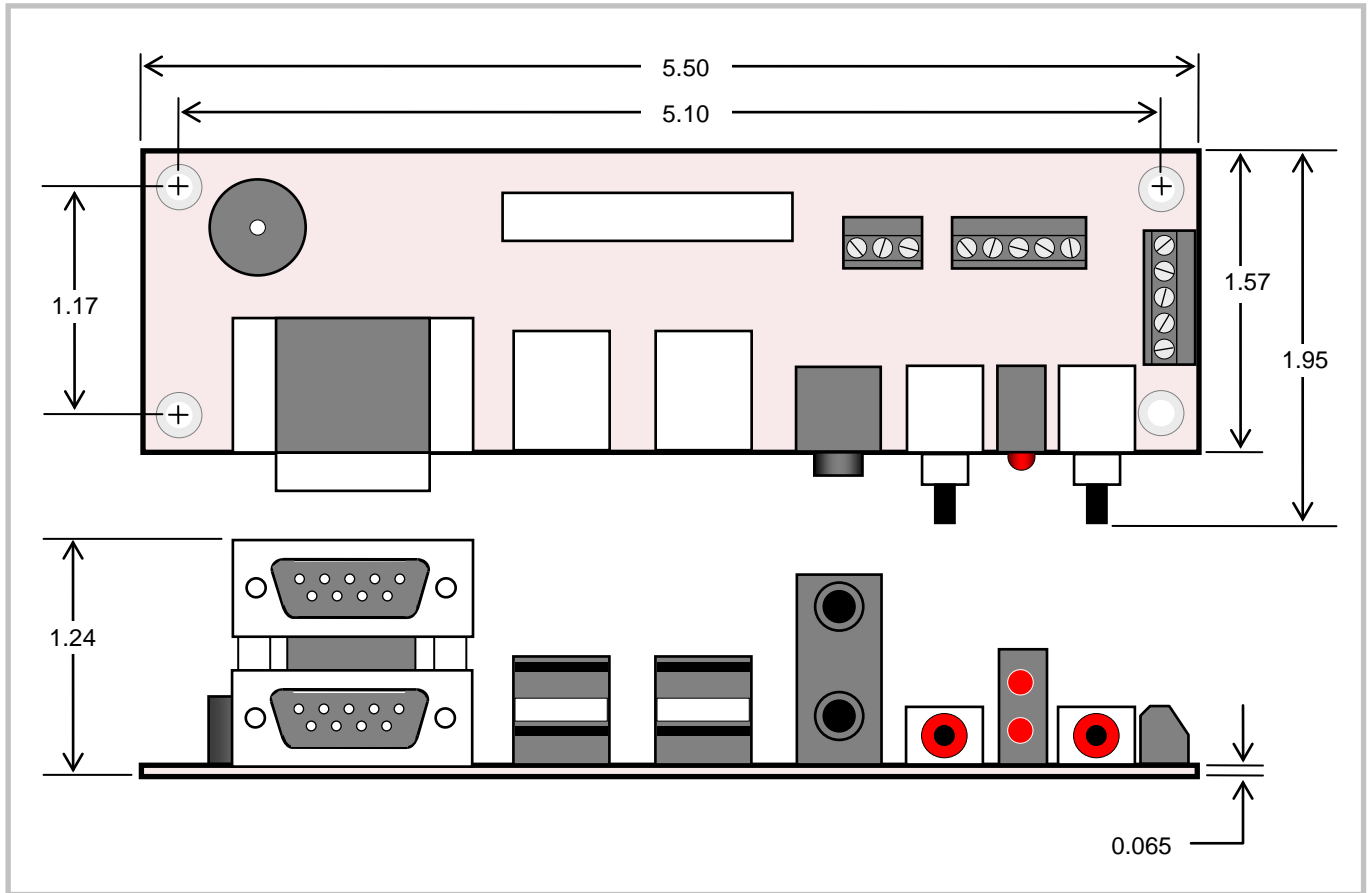

Figure 3. VL-CBR-5013 Dimensions and Mounting Holes
2. The PCB Origin is the mounting hole to the lower left as shown in Figure 3. Coordinates in inches.